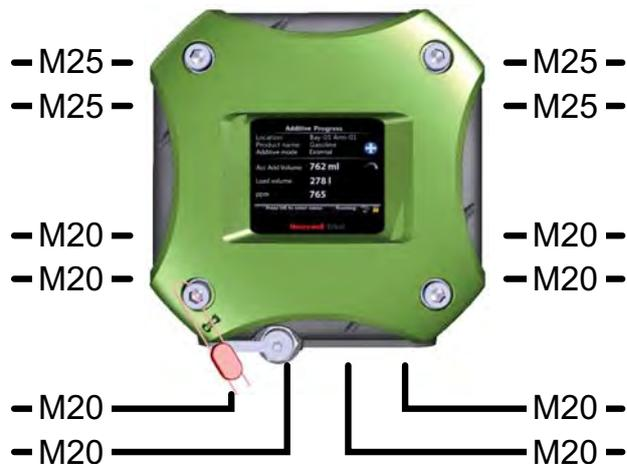

FIGURE 4-3
4.2.2 Metric Gland Entries (FIGURE 4-3)